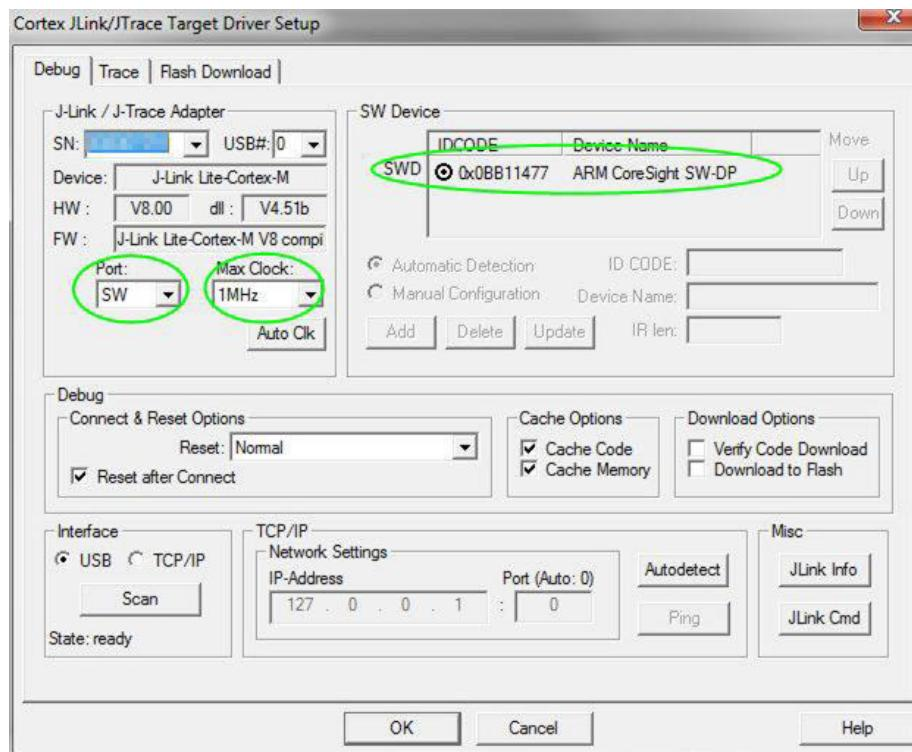

Figure 38 Debug settings
- Click the **Debug** tab shown in the figure. Set Port to **SW** and Max Clock to **1MHz**, as shown in *Figure 38*. Make sure that SN and IDCODE are populated properly and click **OK**.